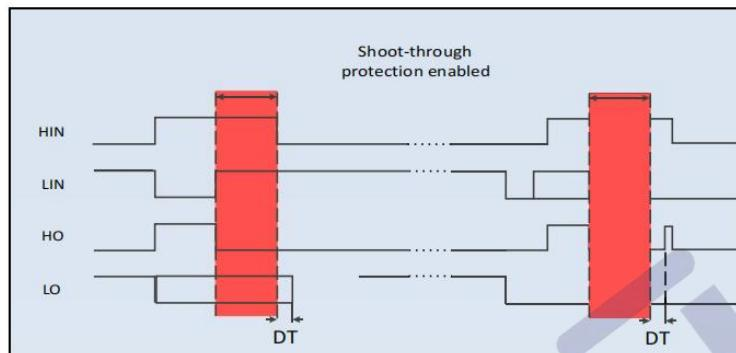

Figure. 3 Shoot-through prevention
The U5315-6T(Q) is equipped with shoot-through protection circuitry (also known as cross conduction prevention circuitry). Figure. 3 shows how this protection circuitry prevents both the high- and low-side switches from conducting at the same time. When the inputs controlling both high-side and low-side drivers are both logic HIGH, then both driver outputs are pulled down to logic LOW to shut down two power devices in the same bridge.